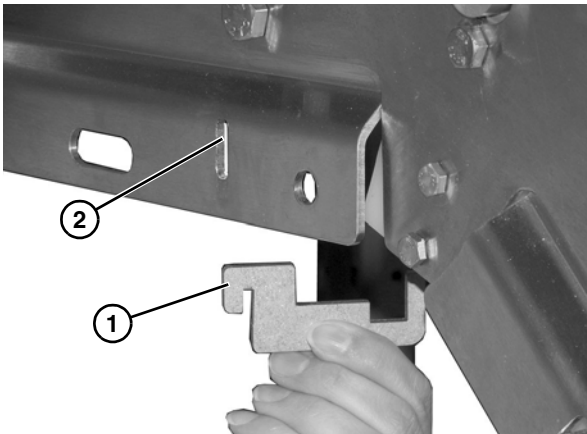

Figure 34
1. Install belt return mounting bracket (Figure 34, item 1) into slotted frame hole (Figure 34, item 2).